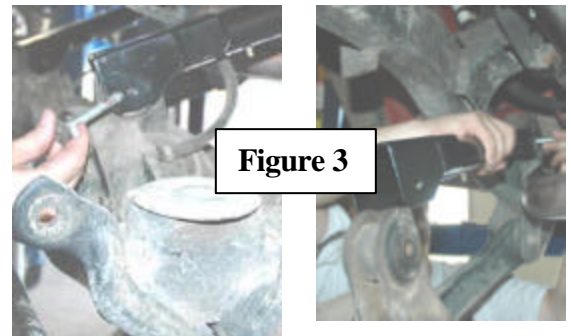

Figure 3
12. Remove the stock upper control arm by removing the factory hardware from the axle bracket and then removing the nut and bolt from the frame bracket doing one side at a time. Do not remove the factory bushing in the axle mount –it is reused. Lubricate bushings with a lithium grease or equivalent and install the new bushings and sleeves in the Rough Country control arm. Adjust the upper Rough Country adjustable control arm to a measurement of  $15\frac{1}{2}$ " from center to center and install on the vehicle using factory hardware – do not tighten at this time. **See Figure 3.**